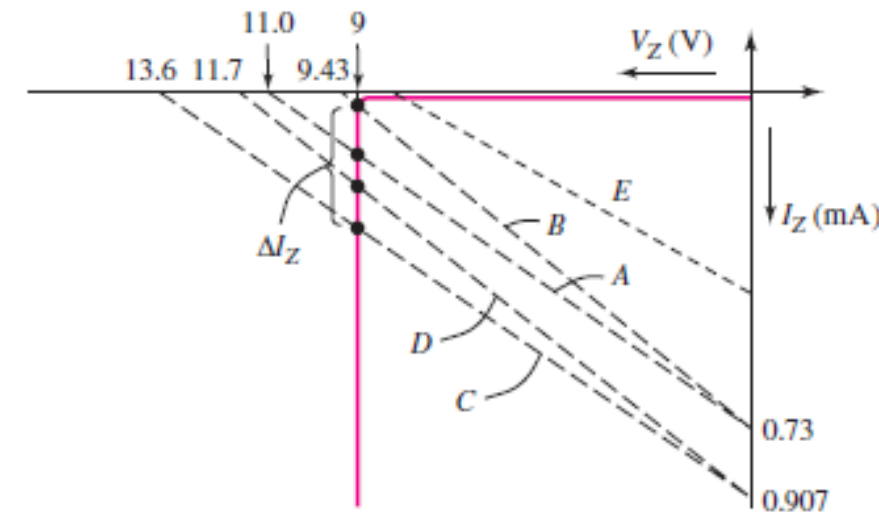

Figure 2.18
- Figure 2.18 shows the Zener diode  $I$ - $V$  characteristics.
- This load line is plotted as **curve E** on the Figure 2.18 shown.